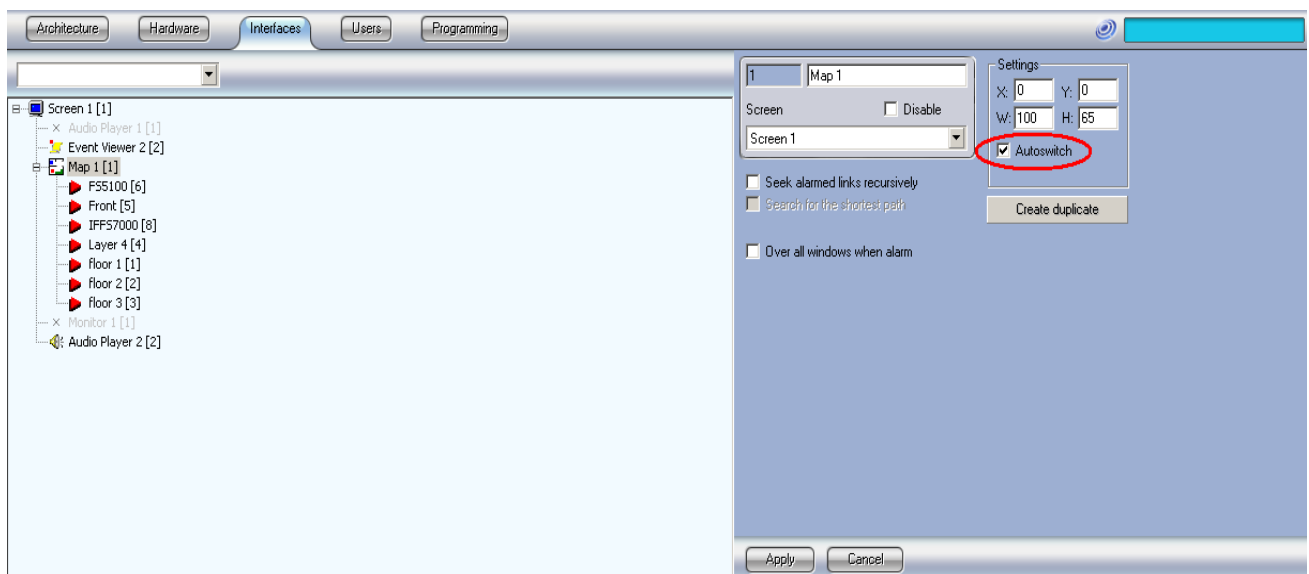

fig. 50
- If the requirement is the map object to automatically switch to the layer where the alarm event is present then it is necessary the “Autoswitch” parameter to be marked/check (fig. 50);